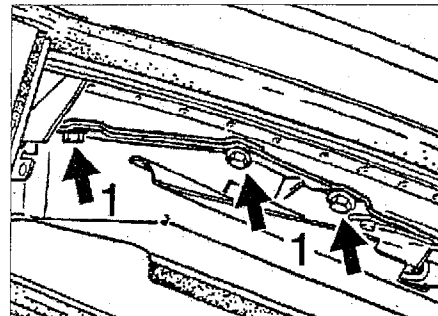
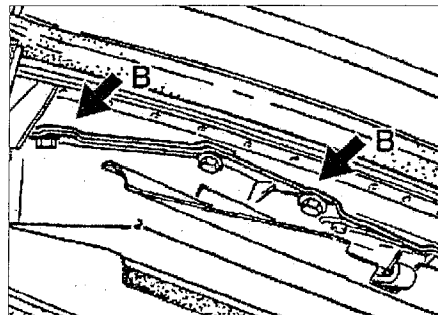

Figure 6.1
Figure 6.2
- Remove the existing allen head bolts (arrow 1, Figure 6.1) one at a time and replace them with new bolts, part number 900 378 163 09 (microencapsulated) and torque to 12.5 ± 0.5 Nm ($9 \pm .36$ Ftlbs).
- If a felt or plastic strip has been installed between the windshield frame and bracket (arrow 1, Figure 6.1) mark the position of the bracket to the windshield frame using tape (arrow B, Figure 6.2) and remove all bolts at the same time. Before tightening the new bolts, adjust the bracket to its original position and torque the bolts to 12.5 ± 0.5 Nm ($9 \pm .36$ Ftlbs).